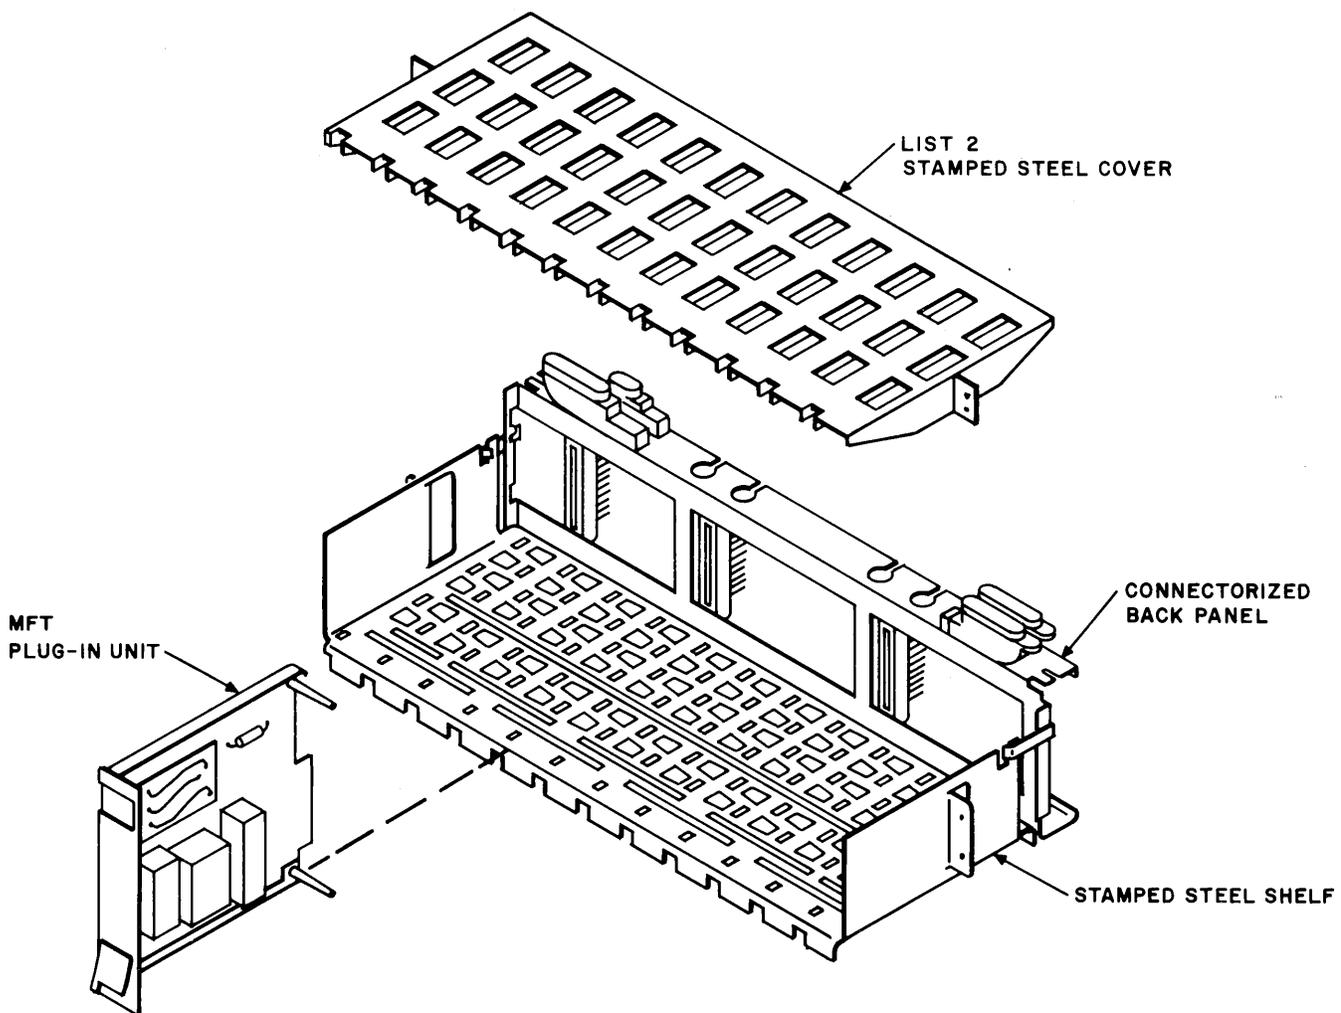

Fig. 9—J99380F and G Shelves
4.13 For CPFT installations in other than DIMENSION PBX cabinets, the J99380F and G shelves (Fig. 9) are available for mounting MFT plug-in units.